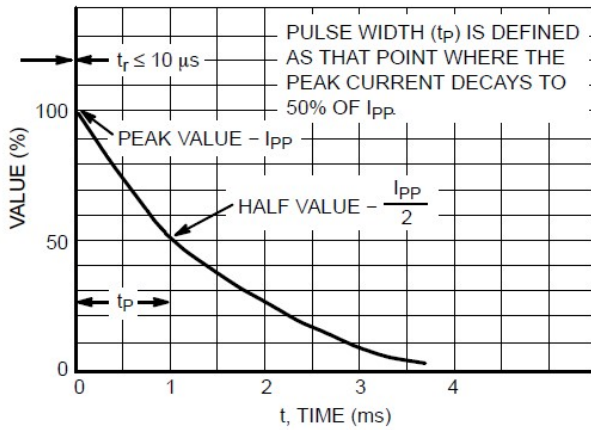

Figure 6. Pulse Waveform
- ✧ Peak power 24 or 40 Watts @ 1.0ms (unidirectional) per Figure 6 Waveform